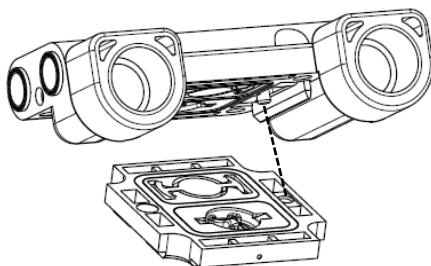

Fig. 16
19. Insert the intermediate plate (6).
**i CAUTION:** Make sure that the orientation is correct so that the connections point in the right direction. A pin and hole system prevents incorrect assembly. See Fig. 16.
20. Mount the connecting plate (4) on the intermediate plate (6), alternately tighten the four head screws (1) with torque 2.5 Nm\*\*.